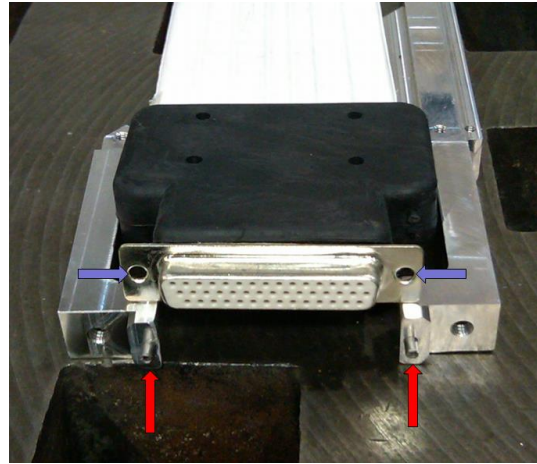

Fig. 54
6. Work the white ribbon cable connector free from the cable support. There are two pins in the cable support that capture the two holes on either side of the D-SUB connector. DO NOT remove the pins from the cable support. (Fig. 54)